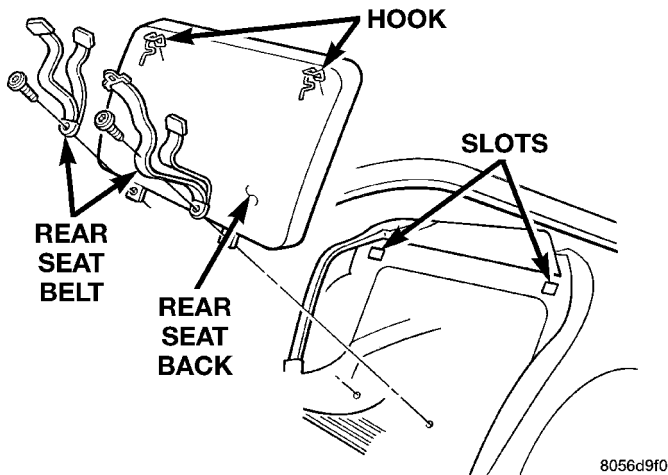

Fig. 3 Rear Seat Back
- (1) Remove rear seat cushion.
- (2) Remove bolts holding rear seat back and seat belts to floor.
- (3) Push rear seat back upward to disengage hooks at top of seat back (Fig. 3).
- (4) Separate rear seat from vehicle.